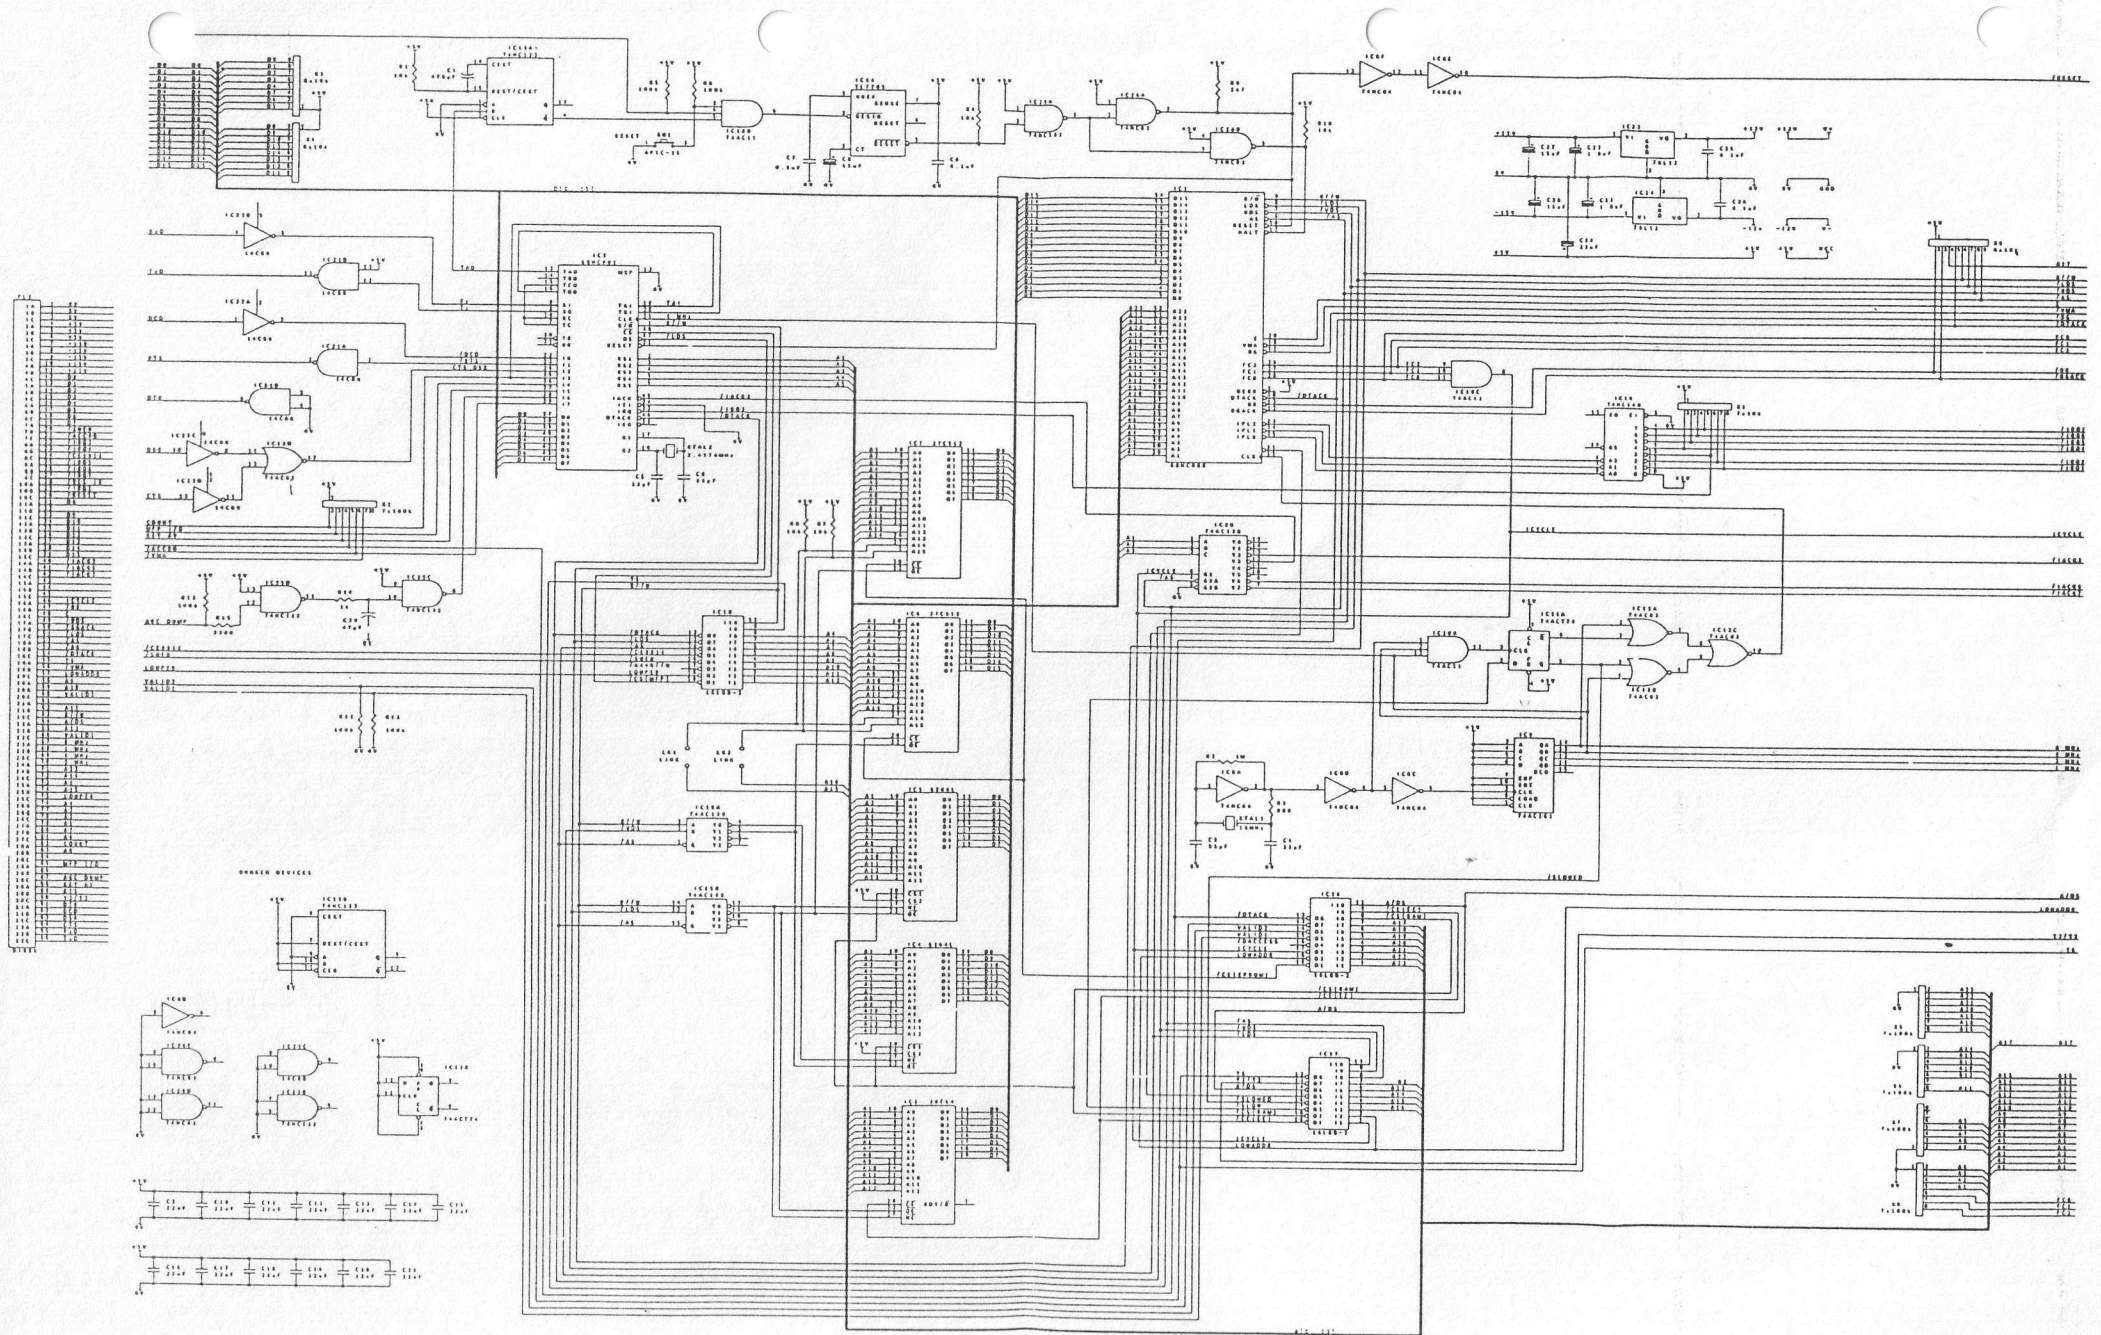

Figure 3 - Controller Board Assembly Circuit Diagram
- Figure 3 Controller Interface Board Layout Diagram